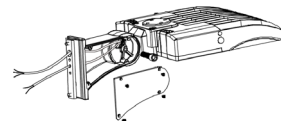

Fig. 3
1. Remove the bracket mounting screws on the fixture, open the access cover of the bracket and run the wires through the bracket (Fig. 3).